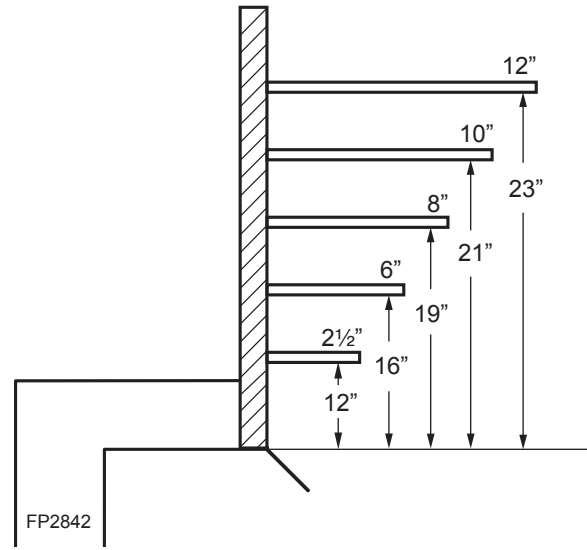
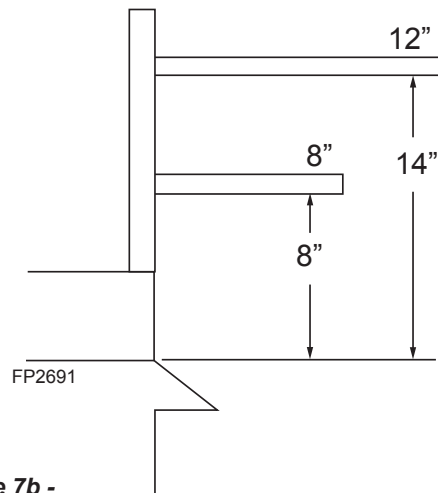

Figure 7a - Mantel Clearances
Figure 7b - Mantel Clearances for Wide Profile Canopy Only
5. **Mantel clearances:** The canopy supplied with the unit must be installed. If a combustible mantel is installed, it must meet the clearance requirements as shown in *Figure 7a*. However, if lower mantel height is desired, refer to *Figure 7b*.